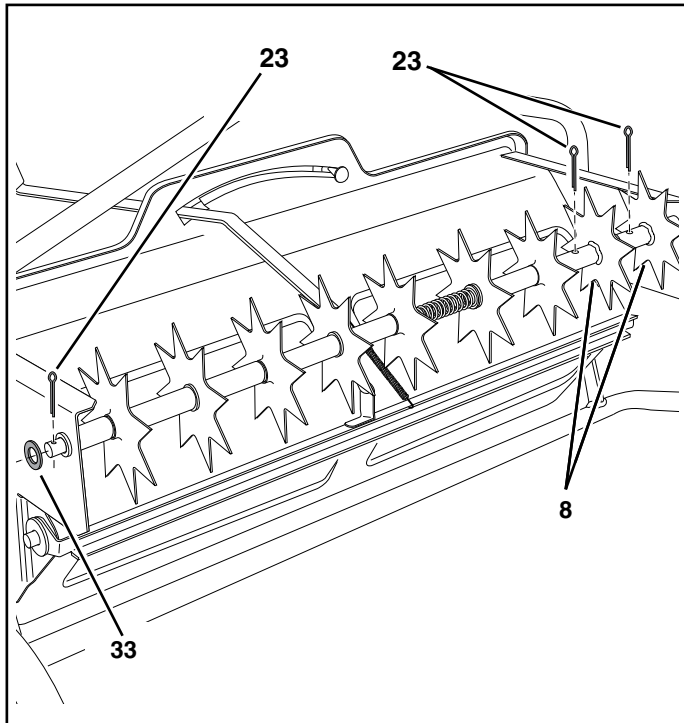

FIGURE 22
- Place one or two 5/8" flat washers (33) onto the end of the spike disk shaft and secure the shaft with a 1/8" x 1-1/2" cotter pin (23) by spreading the ends of the cotter pin. See figure 22.
- Fasten the two drive disks to the shaft using two 1/8" x 1-1/2" cotter pins (23) by spreading the ends of the cotter pin. See figure 22.